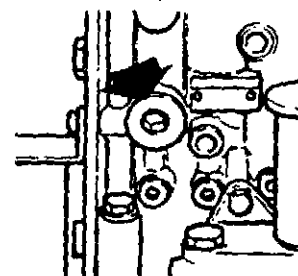

Fig. 2
3. Remove the Allen plug and the washer so that the No. 1 lifter becomes visible (Fig. 2).